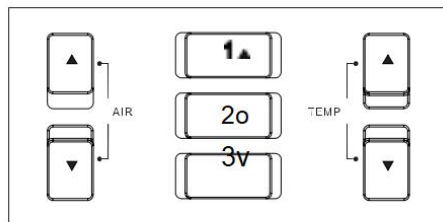

FIG. 1-6
1. Retrieving shortcut temperature: It can rapidly retrieving preset temperature and blowing restored in Button "1"/"2"/"3" by pressing Button "1"/"2"/"3" .(FIG. 1-6) when working